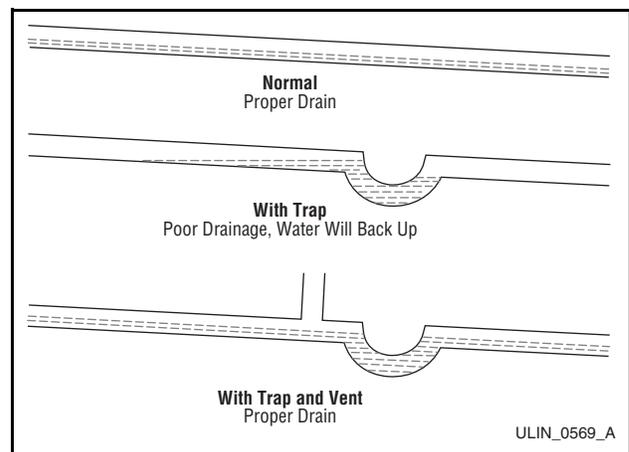

Figure 32
- Drain line does not create traps or created traps are vented (see **Figure 32**).